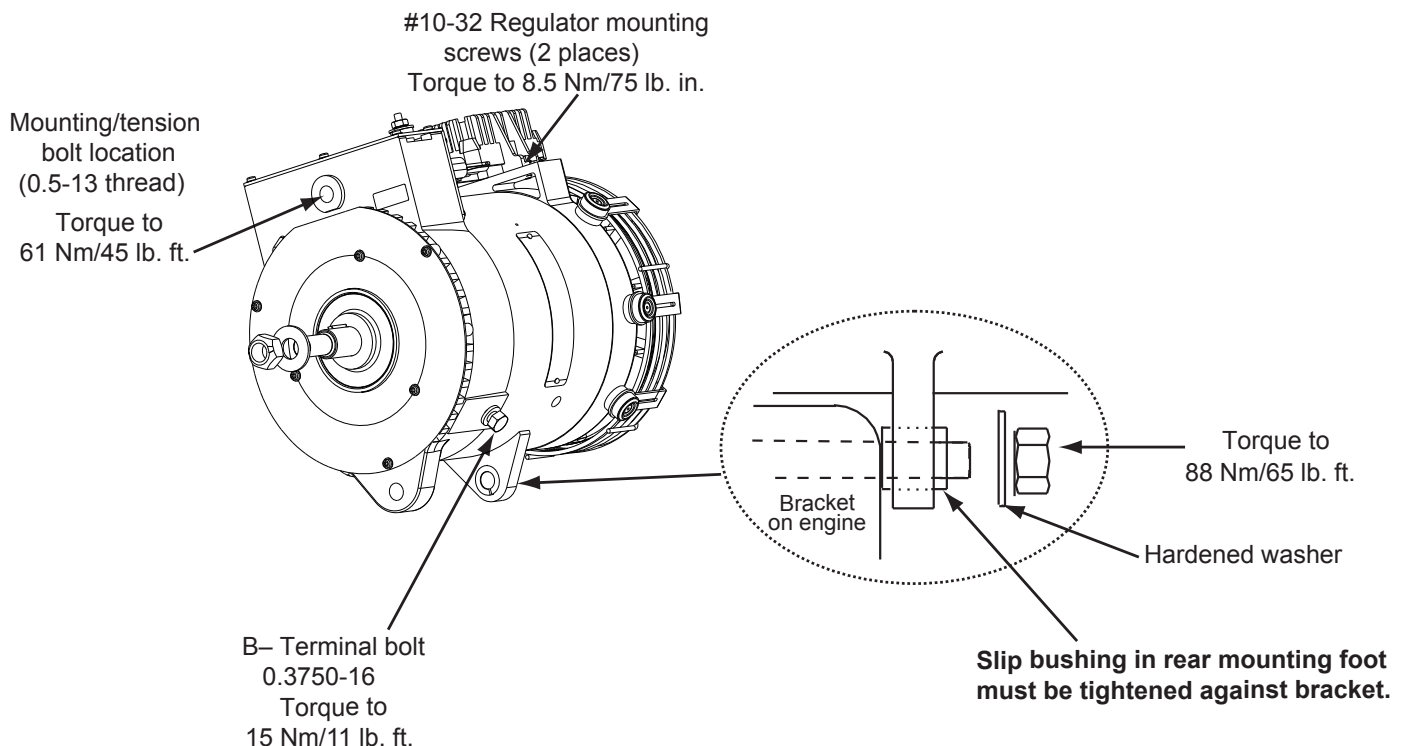

Figure 1: Alternator Installation Details
2. Install pulley, flat washer, and locknut on shaft, in that order. See Figure 1. Torque pulley nut to 163 Nm/120 lb. ft.